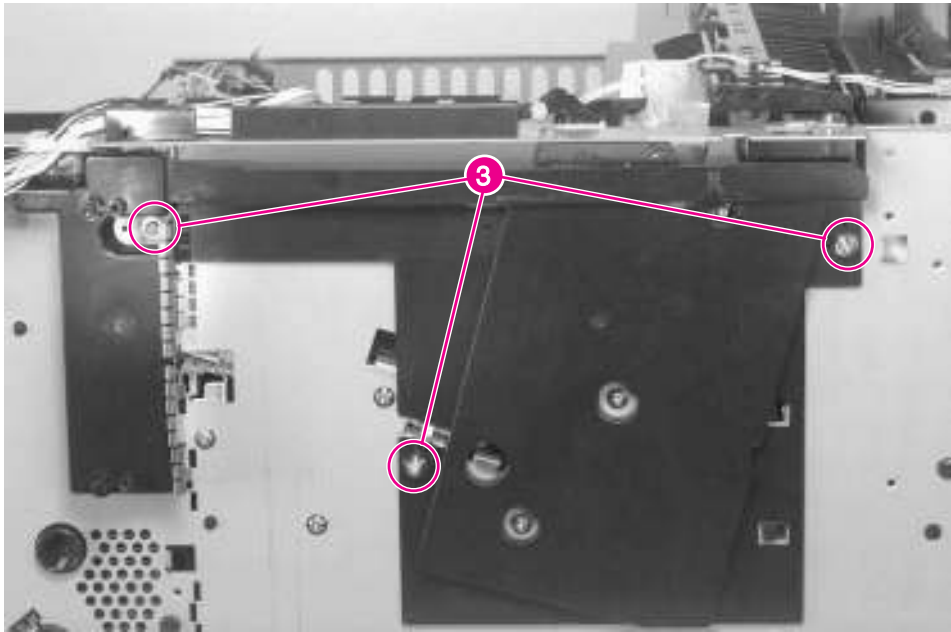

Figure 6-44 **Output Paper Sensor PCA (3 of 4)**
- 4 Remove 3 screws (figure 6-44, callout 3), and remove the plastic PCA shield. (Note the positioning of the metal grounding fingers at the left of the shield.)